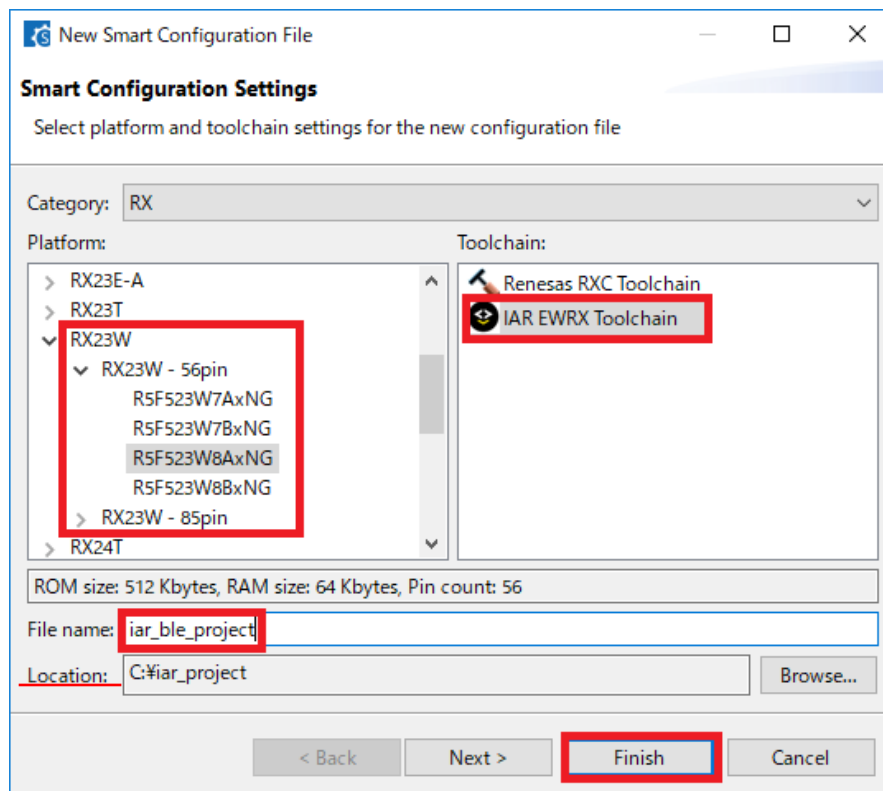

Figure 4-40 : RX Smart Configurator New Project settings
- Copy the “iccrx” directory included in `\src\smc_gen\r_bsp\mcu\rx23w\register_access` which is in the RX Smart Configurator project location directory (refer Figure 4-40) to `\src\smc_gen\r_bsp\mcu\rx23w\register_access` which is generated according to 4.9.1.
- (2) Copy from the FITDemos